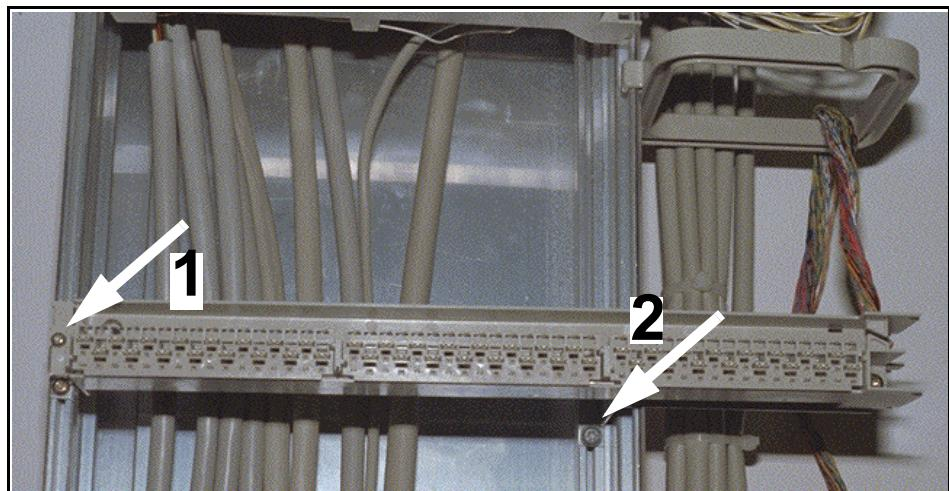

Figure 7
3. Fasten a screw on the left-hand side of the pre-assembled splitting strip to the MDF as shown in Figure 7 (1).
4. Fasten a screw on the right-hand adapter strap of the pre-assembled splitting strip to the MDF (2).